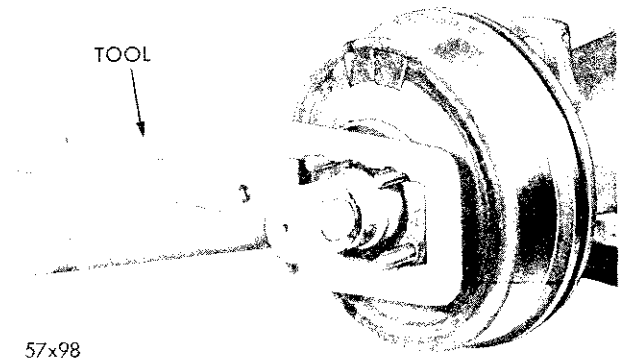

Fig. 23—Removing Handbrake Drum and Flange Assembly
(1) Disconnect the front universal joint.
(2) Apply parking brake or use wrench Tool C-3281 (Fig. 23) and remove flange nut. Release the parking brake (if applied) and remove the parking brake flange and drum assembly. Use puller Tool C-452, if necessary.